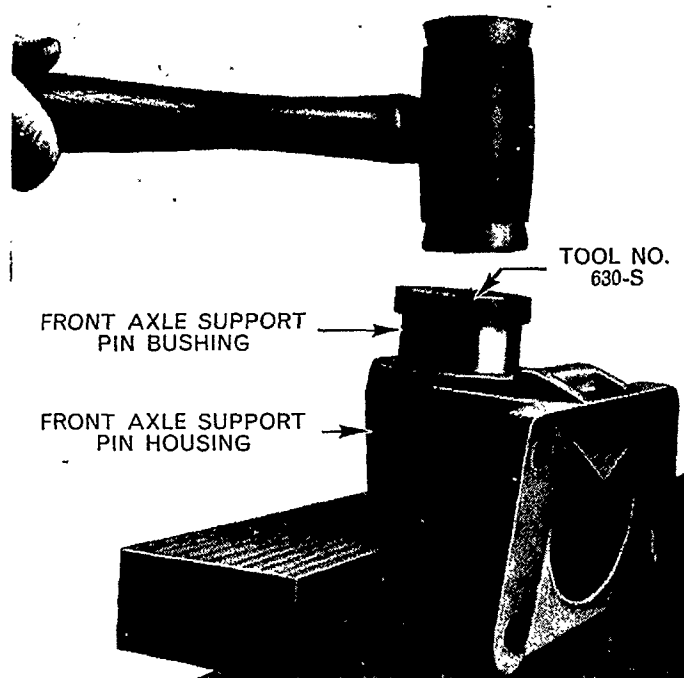

Figure 11
1. Inspect front axle support pin bushing for excessive wear or damage. If necessary to renew, drift out the grease retaining plug. Extract the bushing using Tool No. 630-S and install a new bushing using Tool No. 630-S, Figure 11.